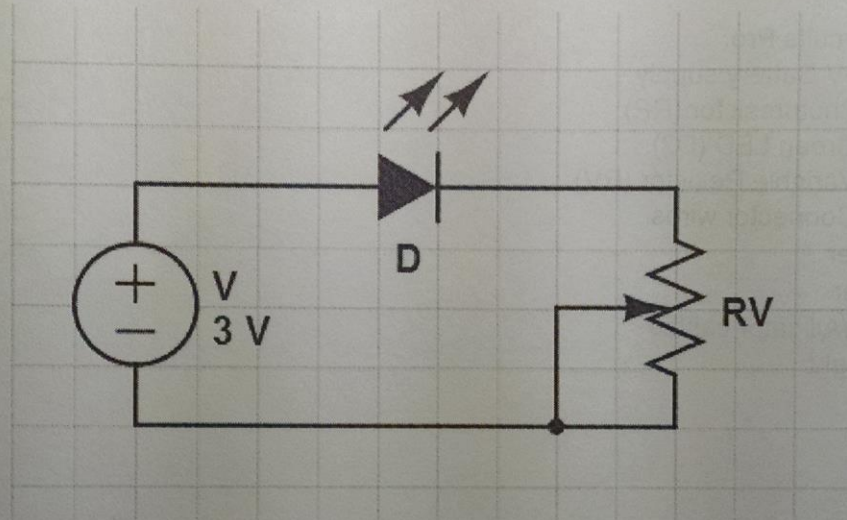

Figure 1
1. Construct the circuit shown in Figure 1